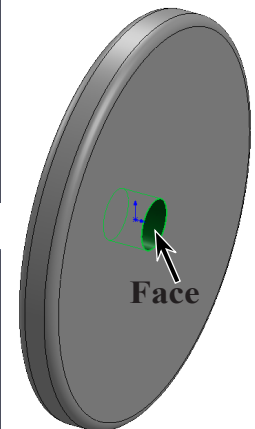

Fig. 8
click **OK** , **Fig. 8**.
Step 1. Click the **inside cylindrical face of axle hole** to select it, **Fig. 8**.